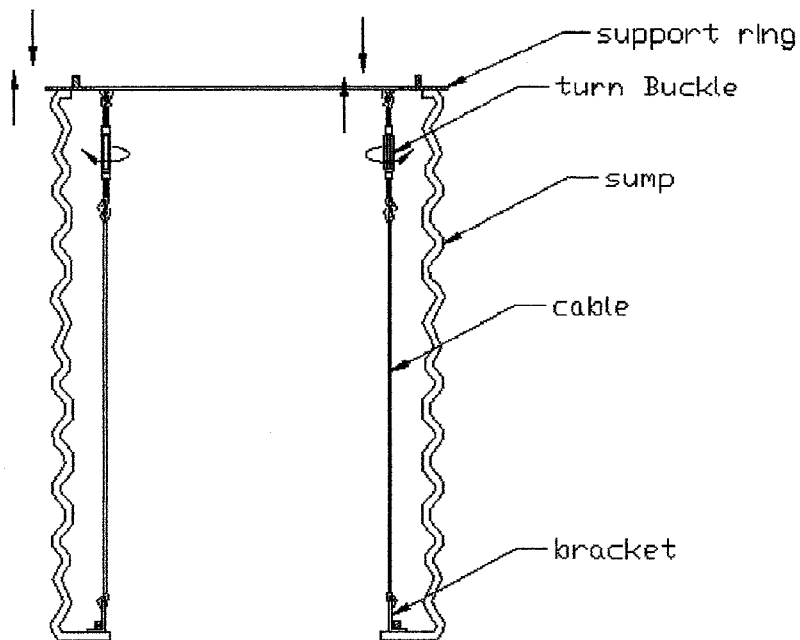

Figure 4
5. Turn the Turn-Buckles in the direction that retracts the Support Ring tight onto the lip of the sump as shown in Figure 4.